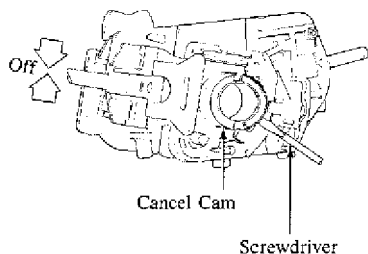

Fig. 3: Removing Cancel Cam from Switch
5. Carefully pry the cancel cam from the combination switch using a screwdriver. See Fig. 3.